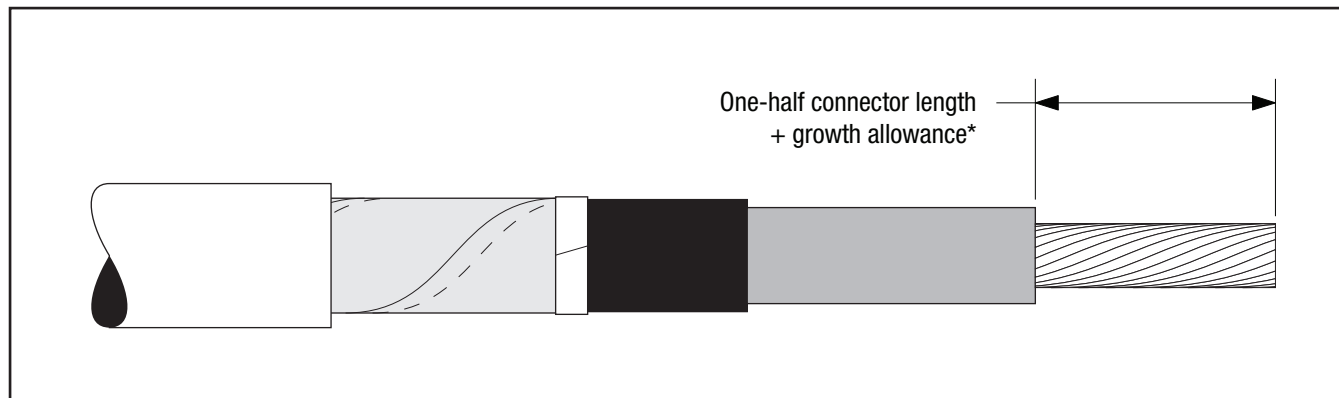

Figure 6
- 3.3 If using a crimp type connector, remove cable insulation for 1/2 connector length plus an allowance* for increases in connector length due to crimping. Insulation removal length shall not exceed 3 3/4" (95 mm) from conductor end. Do not install connector now (Figure 6).**